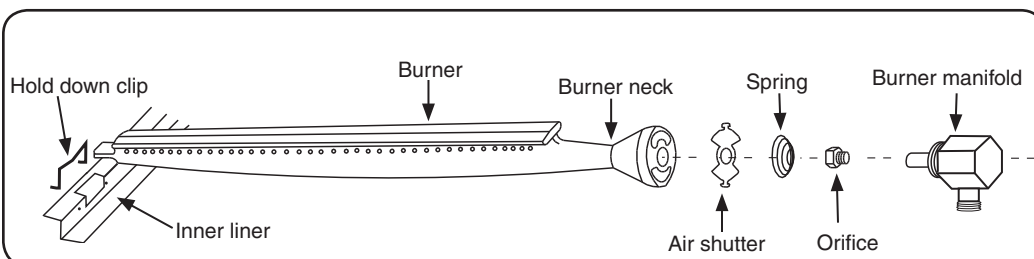

Fig. 16-1 - Burner orifice diagram
4. Using a flat blade screwdriver, pry the burner retaining clip from rear wall of the barbecue frame (see Fig.16-1). Remove the burner by; A) Pulling it to the front of the barbecue; B) Lift the far end out of the notch; C) Pull the burner away from the manifold, taking care not to lose the air shutter and spring, which may become detached when the burner is removed.
6. Install the air shutter spring and the air shutter over the orifice holder fitting in the order and position shown in Fig. 16-1. Carefully place the burner(s) back in position, resting on the back flange of the inner liner so that the brass orifice and orifice holder fittings project well into the burners.